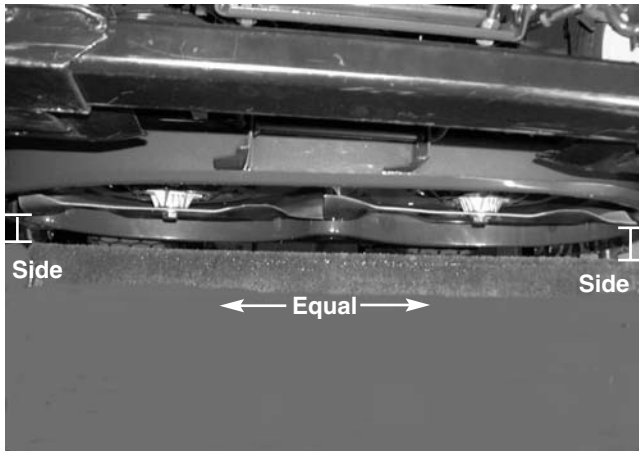

FIGURE 6.
- 2). Measure the outer blade tips to ground. Both measurements taken should be equal. See figure 6.